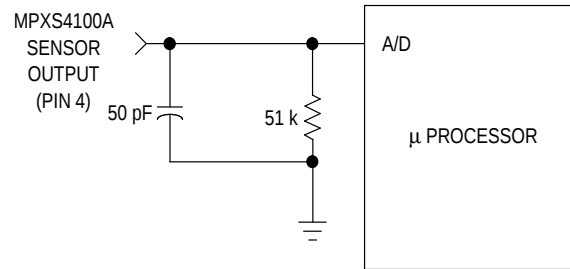

Figure 2. Recommended Decoupling Filter for Sensor to Microprocessor Interface
- Decoupling circuit shown in Figure 2 required to meet specification.
Figure 2 shows the recommended decoupling circuit for interfacing the output of the integrated BAP sensor to the A/D input of a microprocessor (see Note 9).